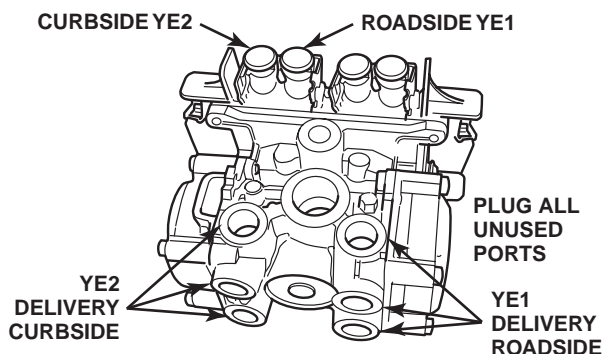

Figure 2-30: Valve Mounted with Sensors Facing Front of Trailer
- If the ECU/dual modulator valve assembly is mounted with the sensors facing the **front** of the trailer, the air lines for the three delivery ports located under the YE sensor connectors must be routed to **curbside**; the air lines for the three delivery ports on the opposite side of the valve must be routed to **roadside**. See Figure 2-30.